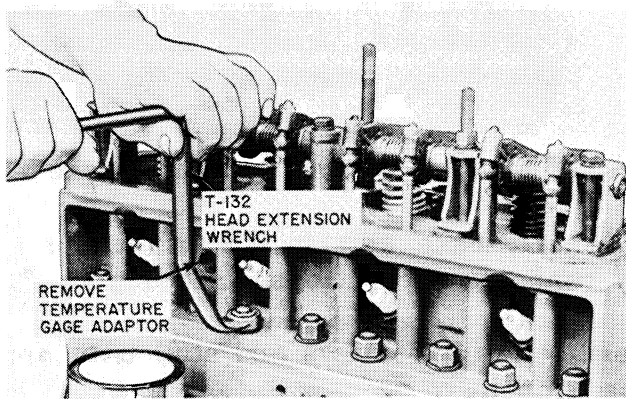

Figure 10 - Using Wrench Extension
4. Loosen the cylinder head stud nuts as shown in Figure 10.